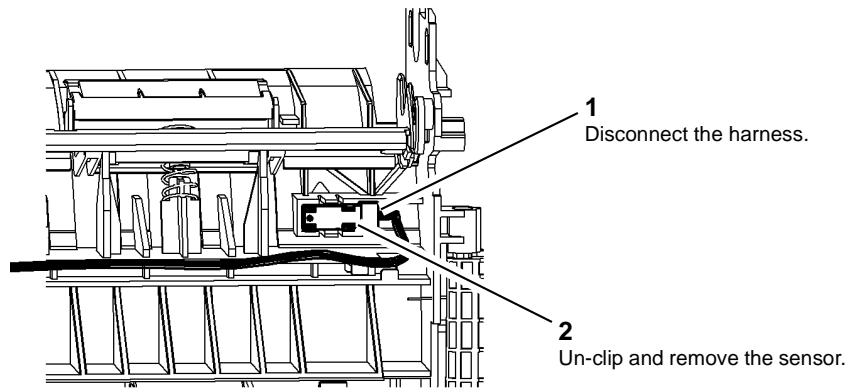

Figure 4 Wait sensor removal
5. Remove the wait sensor, Figure 4.